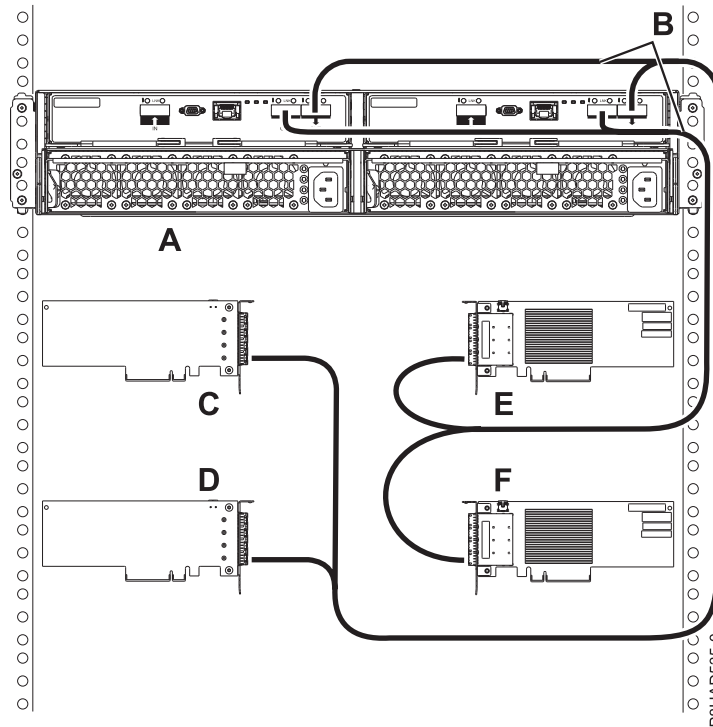

Figure 94. Mode 4 connection of a 5887 enclosure by using X cables to four single PCIe3 SAS adapters with HD narrow connectors.
**Note:** See Figure 94 on page 164 for examples of the following types of connections:
- The cable that plugs into independent SAS adapter 1 (C) contains a label with the P1 identifier. This adapter does not have access to any other independent adapter and has access only to drive bays D1 - D6.
- The cable that plugs into independent SAS adapter 2 (D) contains a label with the P2 identifier. This adapter does not have access to any other independent adapter and has access only to drive bays D7 - D12.
- The cable that plugs into independent SAS adapter 3 (E) contains a label with the P1 identifier. This adapter does not have access to any other independent adapter and has access only to drive bays D13 - D18.
- The cable that plugs into independent SAS adapter 4 (F) contains a label with the P2 identifier. This adapter does not have access to any other independent adapter and has access only to drive bays D19 - D24.